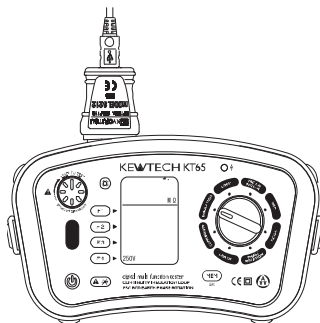

Fig. 55
(1) Connect Model8212USB to the USB Port of a PC.(Special driver for Model8212USB should be installed. See the instruction manual for Model8212USB for further details.)
(2) Insert Model8212USB into the KT65DL as shown in Fig 55.